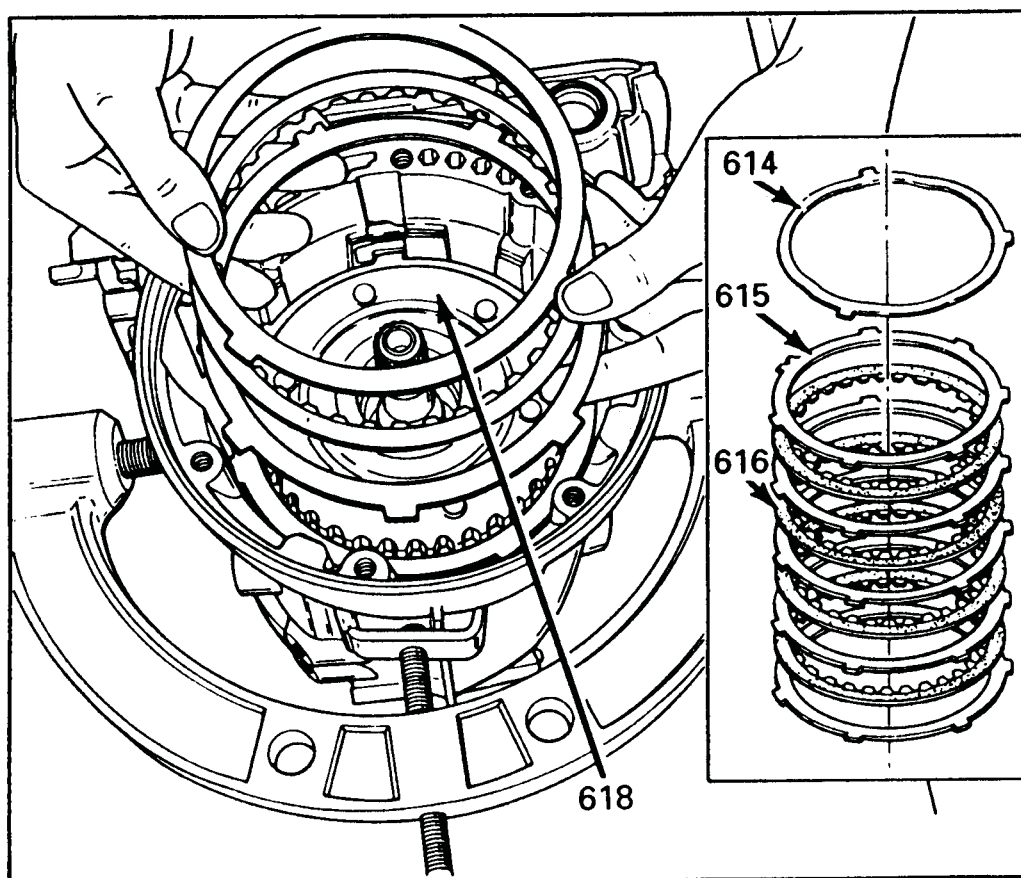

Figure 98
17. Install the reverse clutch plates in the main case, beginning with a steel plate and alternating with a lined plate, as shown in Figure 98.
18. This unit requires 4 lined plates and 5 steel plates stacked as shown in Figure 98 inset. You should have a steel plate in last.
19. Install the reverse clutch wave plate on top of the last steel plate, as shown in Figure 98 inset.